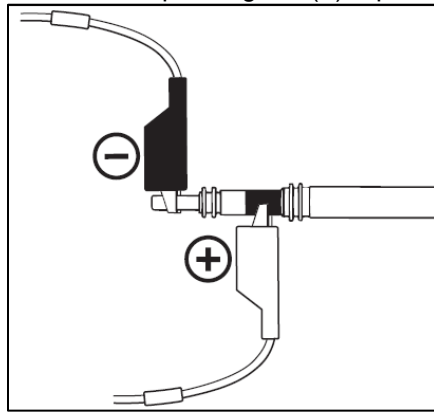

Figure 2. Connection Diagram for Bipolar Pacing Leads, type IS-1
1. Connect the black (-) clip to the connector pin (Figure 2).
2. Connect the corresponding red (+) clip to the connector ring (Figure 2).